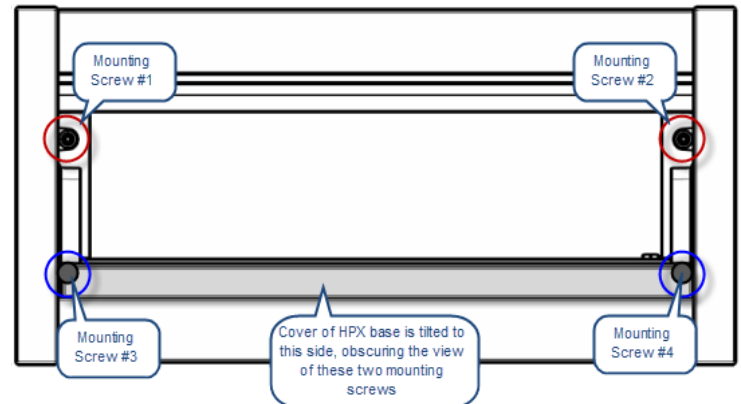

FIG. 3 HYDRAPORT BASE ASSEMBLY (SHOWN MOUNTED) - MOUNTING SCREWS LOCATIONS
*Note that when the cover of the HydraPort base is open, only two of these screws are visible. To access the other two mounting screws, tip the cover over to the opposite open position (see FIG. 3).*